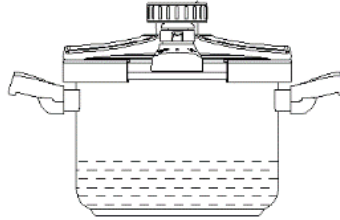

Fig.4
- Less than 1/3 of the cooker height for expansive food such as rice, bean, etc. (Fig. 4);